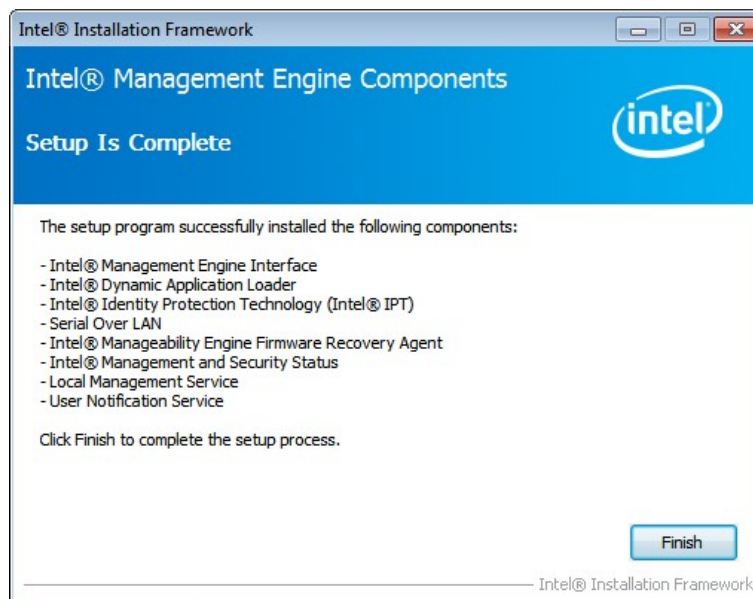

Figure 6-36: Intel® ME Driver Installation Finish Screen
Step 11: The **Finish** screen in **Figure 6-36** appears.